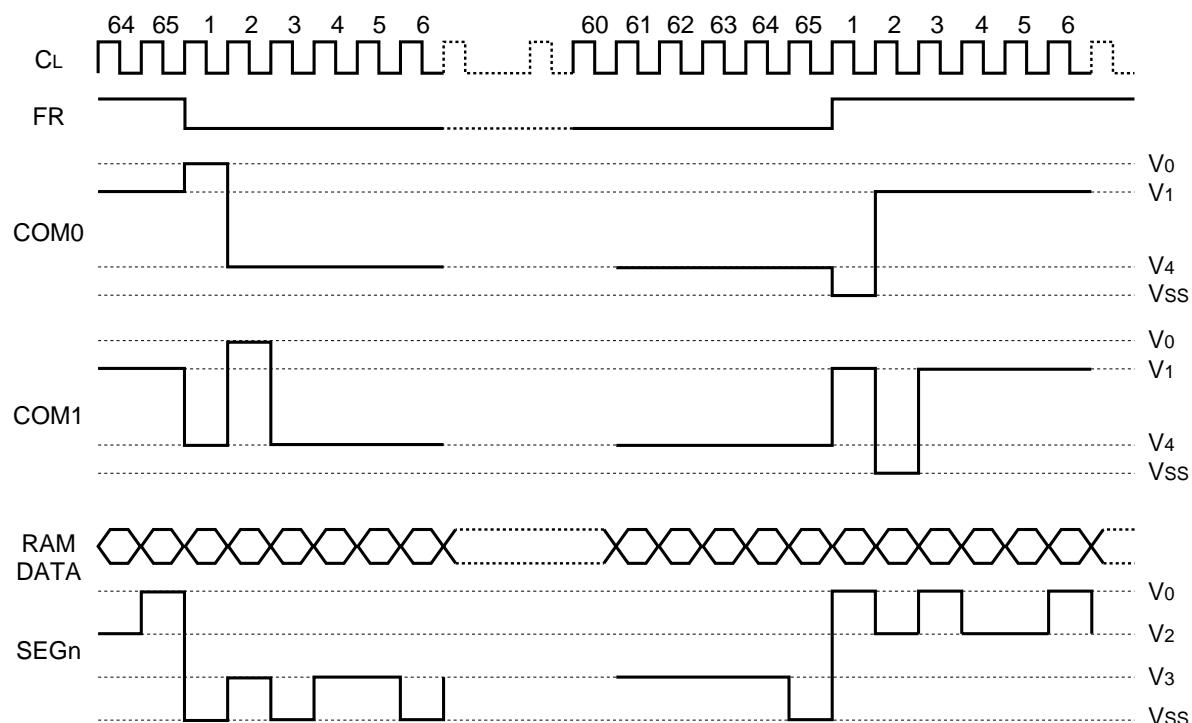

Figure 6
The circuit also generates COM scan signal and the LCD AC signal (FR) from the display clocks. As shown in Figure 6, the FR normally generates the 2-frame AC drive waveforms.